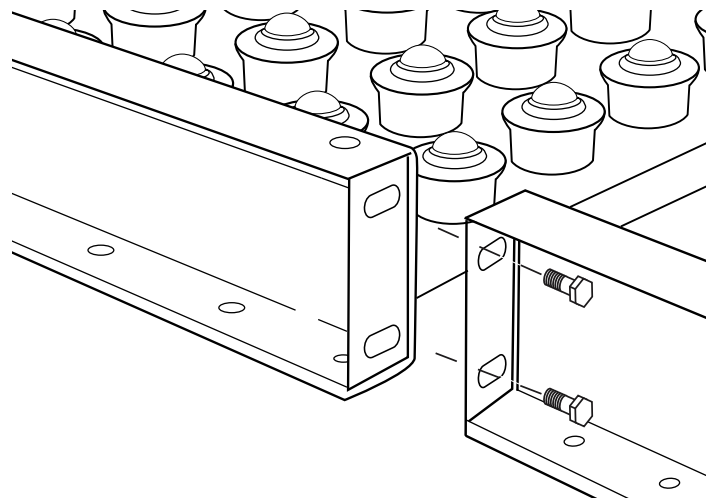

Figure 4
1. Remove pre-screwed hardware. Fasten bolts through the ends of both frames. (See Figure 4).